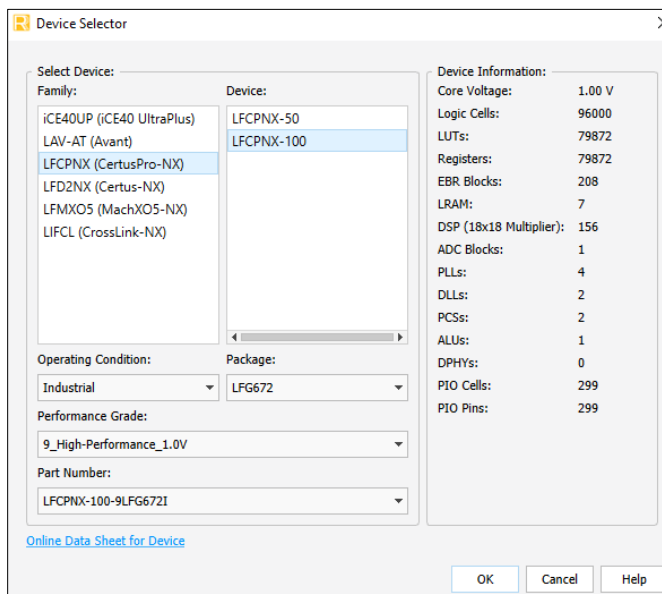

Figure 7.2. Select Targeted FPGA
2. Choose the targeted FPGA family, device, and package to match the board, as shown in Figure 7.2. Make sure these selections are correct. As for the operating condition and performance grade, they do not directly affect the bitstream. They are only used for timing and performance analysis.